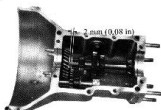

Fig. 8-20
4. When installing the upper case on the lower case, take care so that the reverse gear shift lever fits snugly into the reverse idler gear groove. For this installation, check the neutral position of each shifting fork, and allow a clearance of about 2 mm (0.08 in) between the idler gear and the countershaft drive gear as shown in the Fig. 8-20.